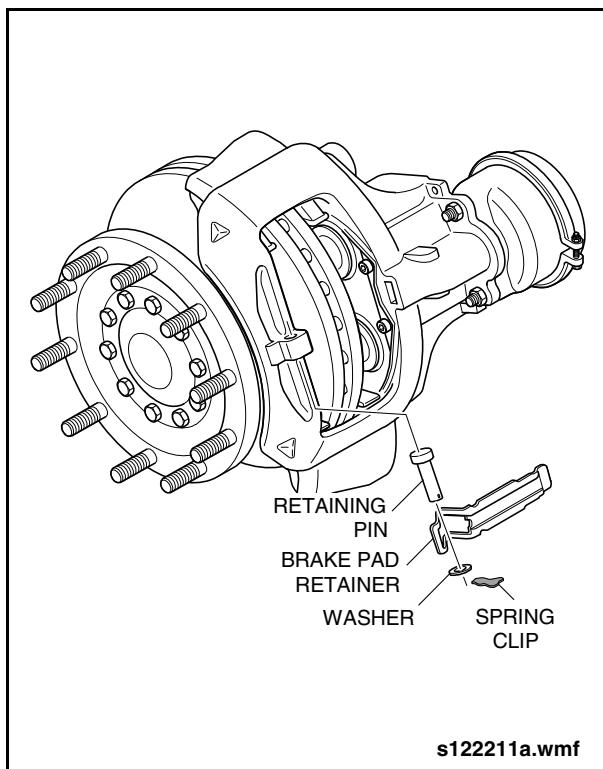

Fig. 1-57: Brake Pad Retainer Installation
- a. Insert the inboard end of the pad retainer into the groove and apply sufficient downward pressure to allow insertion of the retaining pin. See "Fig. 1-57: Brake Pad Retainer Installation" on page 60.